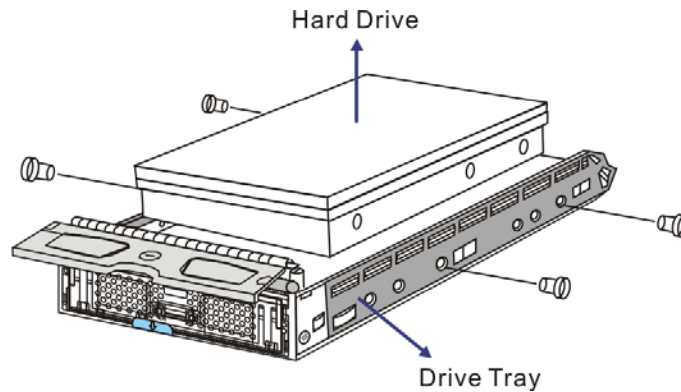

Figure 5-16: Removing the Hard Drive
- Step 5. Remove the four (4) retention screws** that secure the hard drive from the sides of the drive tray (two on each side). (See **Figure 5-16**)